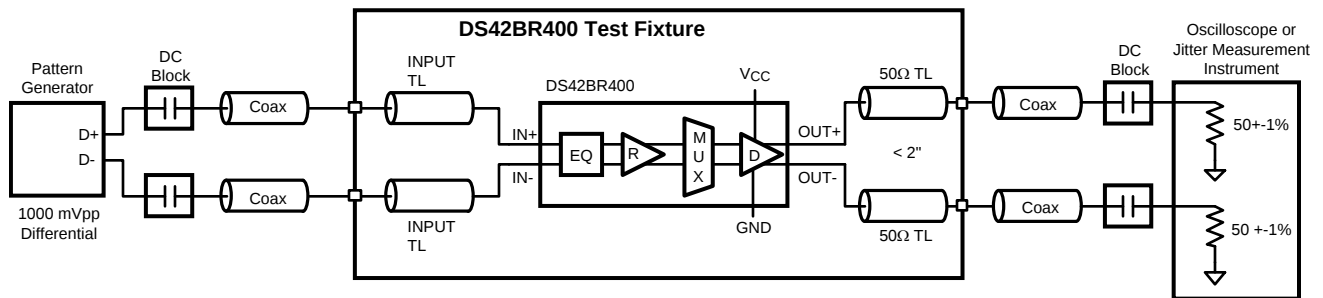

Figure 7. AC Test Circuit
The high speed inputs are self-biased to about 1.3V and are designed for AC coupling allowing the DS42BR400 to be directly inserted into the datapath without any limitation. The ideal AC coupling capacitor value is often based on the lowest frequency component embedded within the serial link. A typical AC coupling capacitor value ranges between 100 and 1000nF, some specifications with scrambled data may require a larger coupling capacitor for optimal performance. To reduce unwanted parasitics around and within the AC coupling capacitor, a body size of 0402 is recommended. Figure 7 shows the AC coupling capacitor placement in an AC test circuit.
(4) t_{SKO} is the magnitude difference in propagation delays between all data paths on one device. This is channel-to-channel skew. t_{SKPP} is the worst case difference in propagation delay across multiple devices on all channels and operating under identical conditions. For example, for two devices operating under the same conditions, t_{SKPP} is the magnitude difference between the shortest propagation delay measurement on one device to the longest propagation delay measurement on another device.
(5) Device output random jitter is a measurement of random jitter contributed by the device. It is derived by the equation $\text{SQRT}[(R_{JOUT})^2 - (R_{JIN})^2]$, where R_{JOUT} is the total random jitter measured at the output of the device in ps(rms), R_{JIN} is the random jitter of the pattern generator driving the device. Below 400 Mbps, system jitter and device jitter could not be separated. The 250 Mbps specification includes system random jitter. Please see Figure 7 for the AC test circuit.
(6) Device output deterministic jitter is a measurement of the deterministic jitter contribution from the device. It is derived by the equation $(DJ_{OUT} - DJ_{IN})$, where DJ_{OUT} is the total peak-to-peak deterministic jitter measured at the output of the device in ps(p-p). DJ_{IN} is the peak-to-peak deterministic jitter at the input of the test board. Please see Figure 7 for the AC test circuit.
(7) This parameter is specified by design and/or characterization and is not tested in production.